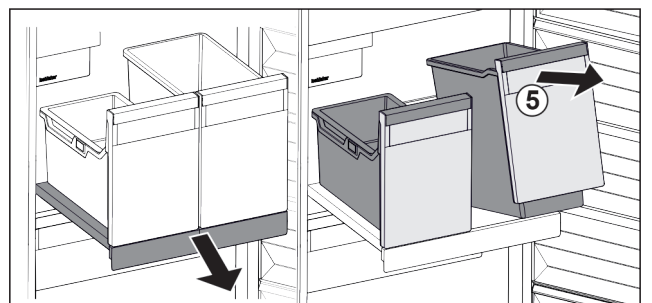

Fig. 118
- ▶ Lift the container Fig. 118 (5) at the front.